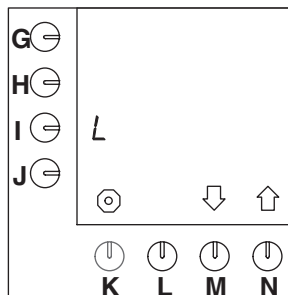

Fig. 22 The default set unit = L (litres)
- This is the default setting (fig.22).